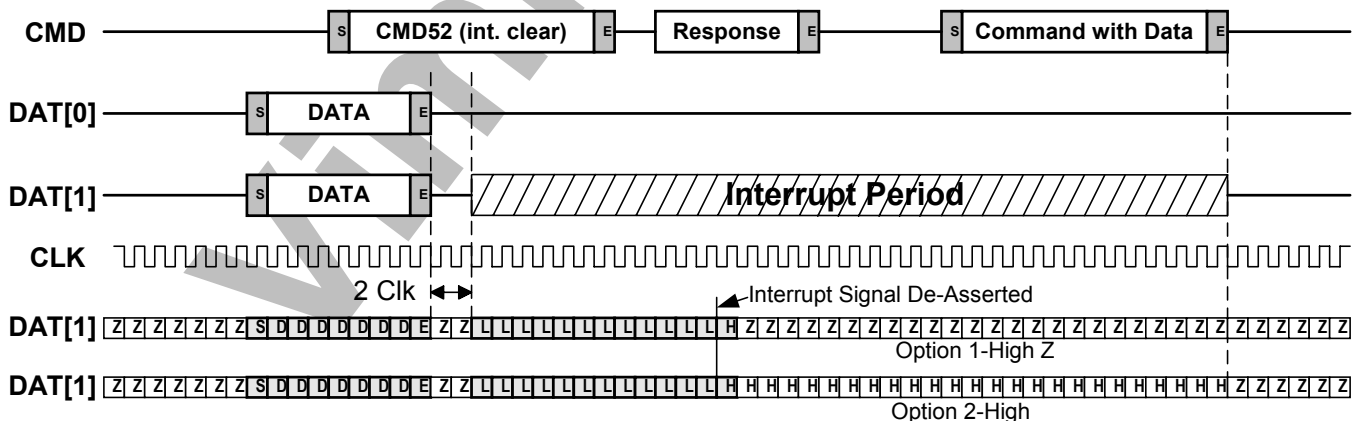
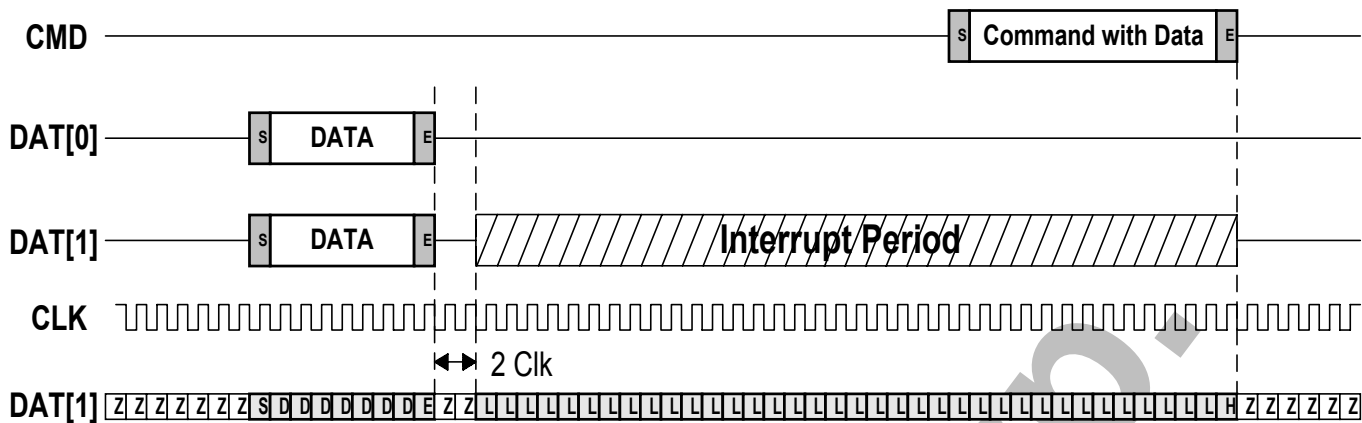

Figure 28 Interrupt Cycle Timing
Figure 29 Alternate Interrupt Cycle Timing
In the SD 4-bit mode the card shall drive DAT[1] high for a minimum of 1 clock cycle before terminating the Interrupt Period. This signaling is shown in Figure 28 and shows the situation where the period of interrupt signaling is shorter than that of the Interrupt Period. In this example, the interrupt is cleared by a CMD52 write operation prior to the end of the Interrupt Period. The SDIO card can release the interrupt in one of two possible ways. Option #1 is for the SDIO card to place the DAT[1] into a hi-z after the single clock time of driving DAT[1] high (H). Option #2 is for the SDIO card to keep the DAT[1] line high (H) until the end of the Interrupt Period and then place the line into the hi-z state. Figure 29 shows the case where interrupt is de-asserted at the end of the Interrupt Period. In this case, the DAT[1] is driven to a high level prior to the card releasing the line to the hi-Z state.